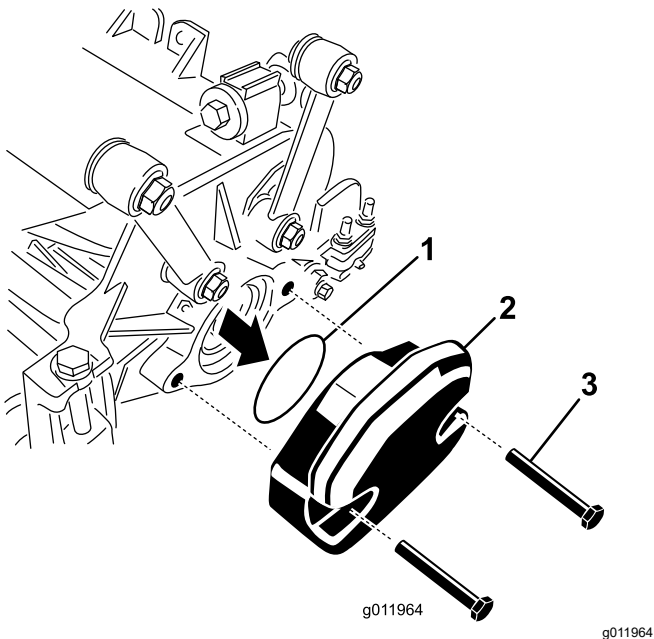

Figure 22
2. Remove the weight and O-ring (Figure 22) from the inside end of the right cutting unit.